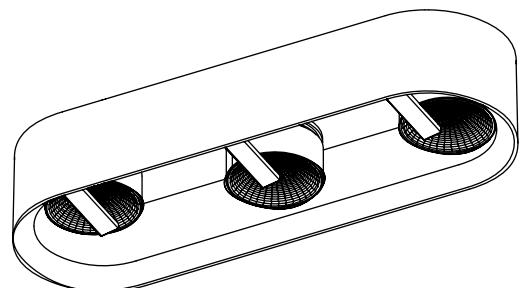

Figure 9
7. To remove the trim, use the provided tool. Slide the tool tip between the lens and the trim as shown in figure 9. Pull down the tool to detach the trim from its snaps.